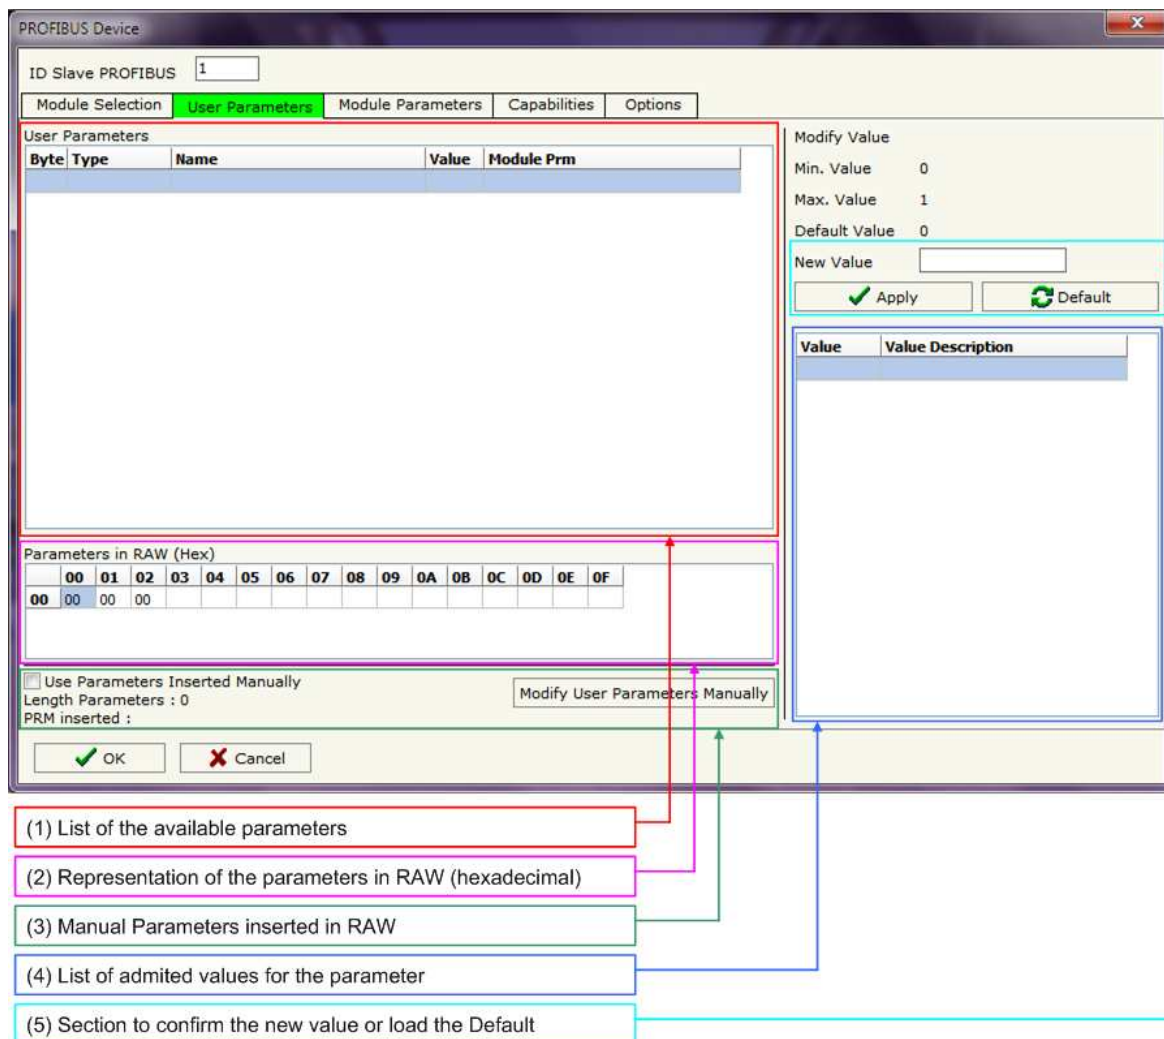

Figure 9: "PROFIBUS Device – User Parameters" window
The section "User Parameters" is used to modify the parameters of the PROFIBUS slave (Fig. 9).
- The List of all Parameters available for the PROFIBUS device ("User Parameters") (Fig. 9, point (1));
- The Configuration of all parameters in RAW ("Parameters in RAW (Hex)") (Fig. 9, point(2));
- The "Use Parameter Inserted Manually", enable this option is possible to insert manually the parameters of Device and also of the Modules. Using the "Modify User Parameters Manually" button is possible to insert/modify the parametrization of the device (and/or modules). For more info see below. (Fig. 9, point(3));
- The admitted value for the selected parameter. It is possible to select the value desired and confirm it with the "Apply" button. If no value appears in this table, the "Min Value" and "Max Value" are the limit of the parameter. (Fig. 9, point(4));
- The "Apply" button is used to confirm the new value of the parameter, the "Default" button is used to load the factory value for the parameter. In "New Value" edit box it is possible to set the new value. (Fig. 9, point(5)).